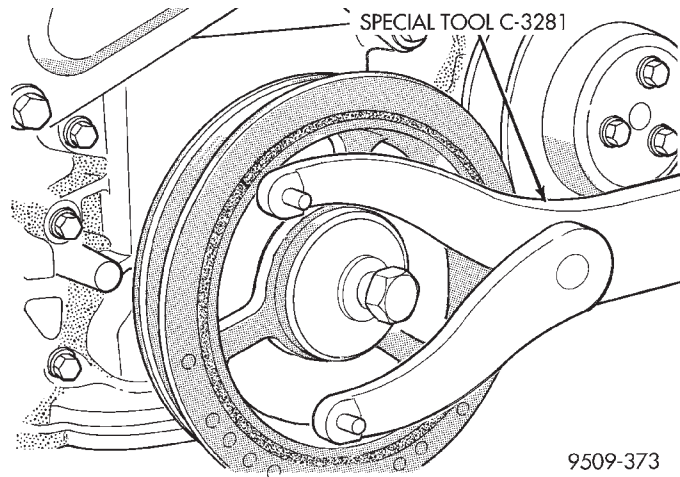

Fig. 46 Crankshaft Damper—Installation
- (8) Install crankshaft damper (Fig. 46).